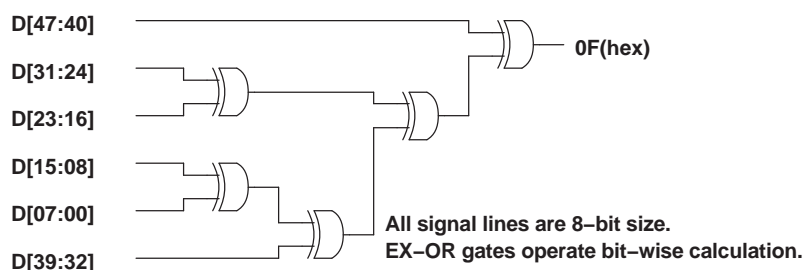
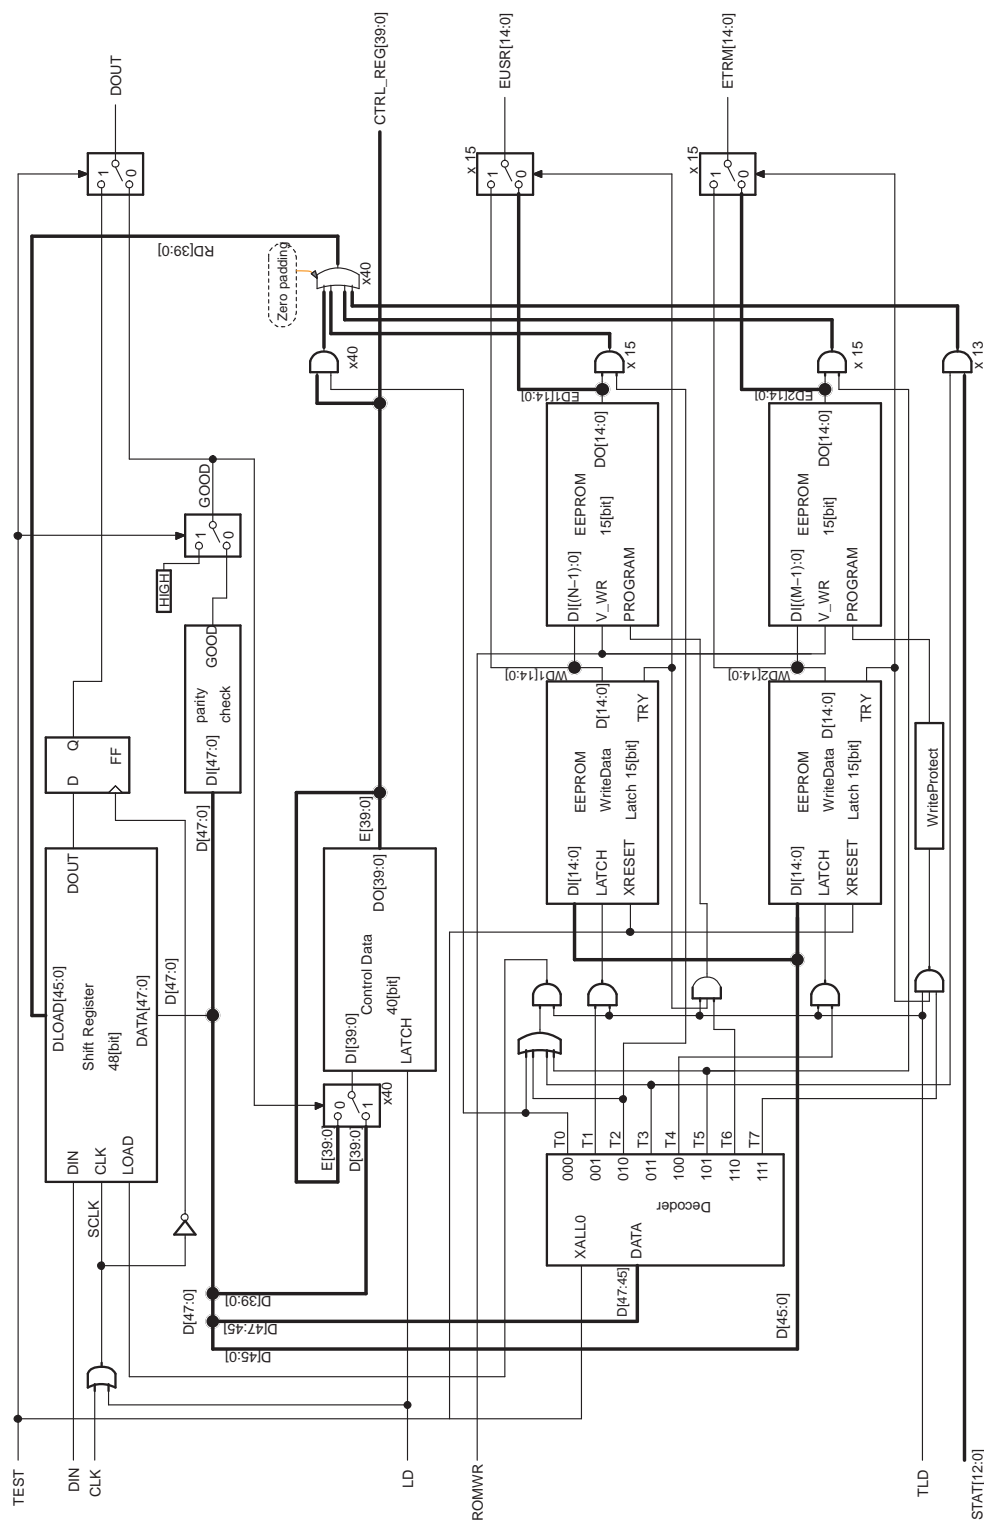

Figure 31. Configuration for Parity Bit Calculation
Figure 34. Serial Interface Block Diagram
Figure 34 shows the overall block configuration. In the figure, the 48-bit Shift Register block accepts D[47] (MSB) last in the time sequence. Figure 31 shows the configuration of the parity judgment circuit.
- **Tests 0 to 7** require explicit mode switching using the Decoder shown in Figure 34. The Decoder uses the three high-order bits in the shift register to change the mode. Table 8 shows the bit assignment.